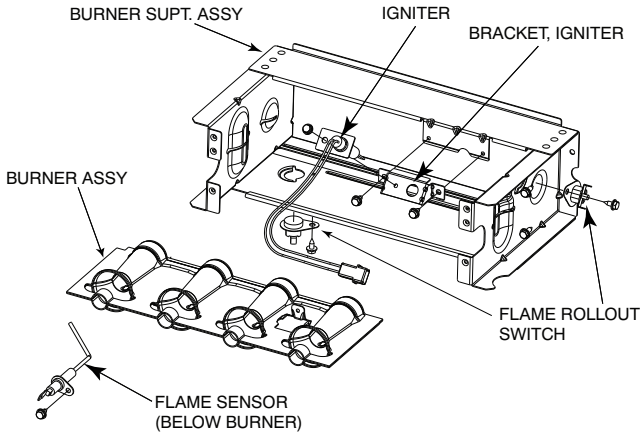

Fig. 65 - Burner Assembly
Refer to Fig. 65.
- a. Using a 1/4-in. driver, remove the two screws securing the igniter mounting bracket to the burner assembly. See Fig. 65.
6. To replace igniter and bracket assembly, reverse items 5a through 5d.
7. Reconnect igniter harness to the igniter, dressing the igniter wires to ensure there is no tension on the igniter itself. See Fig. 65.